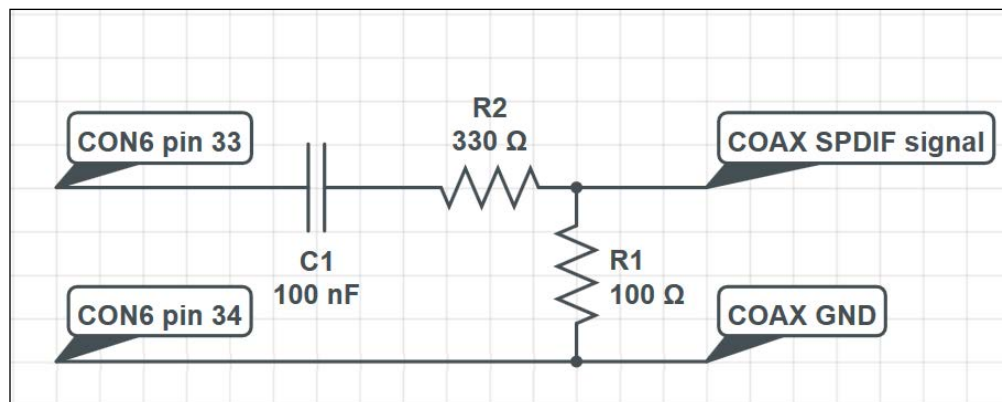

Figure 4
9. Push the remote control button and keep it pressed for a while after invoking the preceding command. For my remote control, the terminal output can be seen in the following screenshot (*Figure 4*). The `mode2` command can be stopped by pressing *Ctrl + C*. As we can see from the output in shown in *Figure 4*, the number 16275 appears several times. It marks the end of the remote control command. The remote control repeat code can be seen in the same line as the end code. For my remote control, it is 8788 2261. Open the `lircd.conf` file with an editor and apply the following changes: